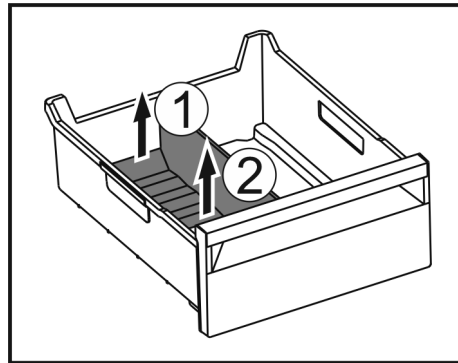

Fig. 176
- Lift the rear part of the ice compartment divider. Fig. 176 (1)
- Remove the ice compartment divider upwards. Fig. 176 (2)